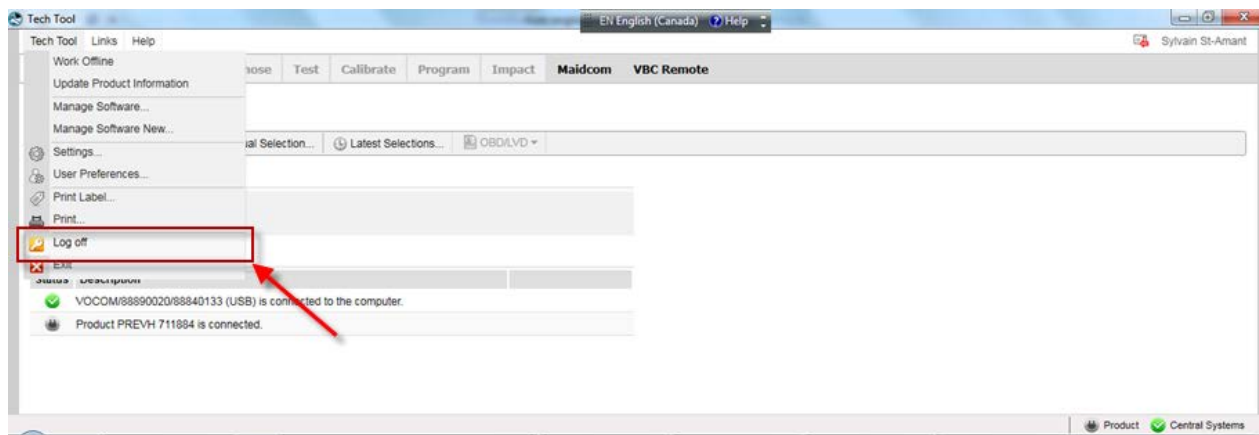

FIGURE 39
11. Fermer la session Premium Tech Tool (FIGURE 39).